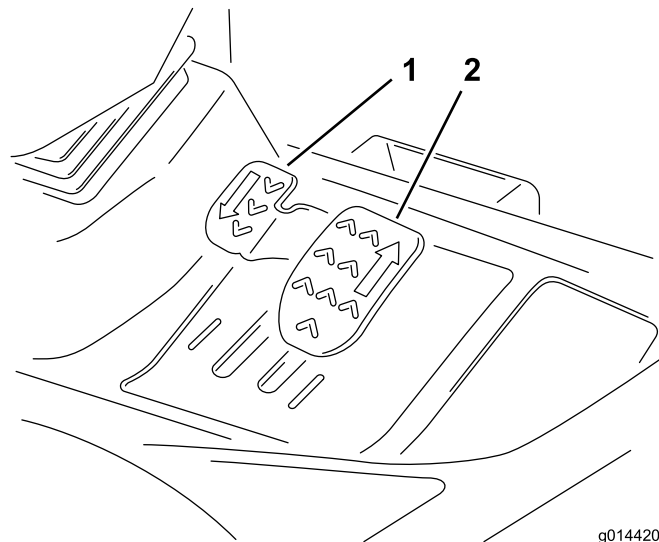

Figure 16
**Forward travel:** Press the forward traction pedal to increase forward travel speed. Release the pedal to reduce speed (Figure 16).
**Reverse travel:** Press the reverse traction pedal to increase reverse travel speed. Release the pedal to reduce speed (Figure 16).